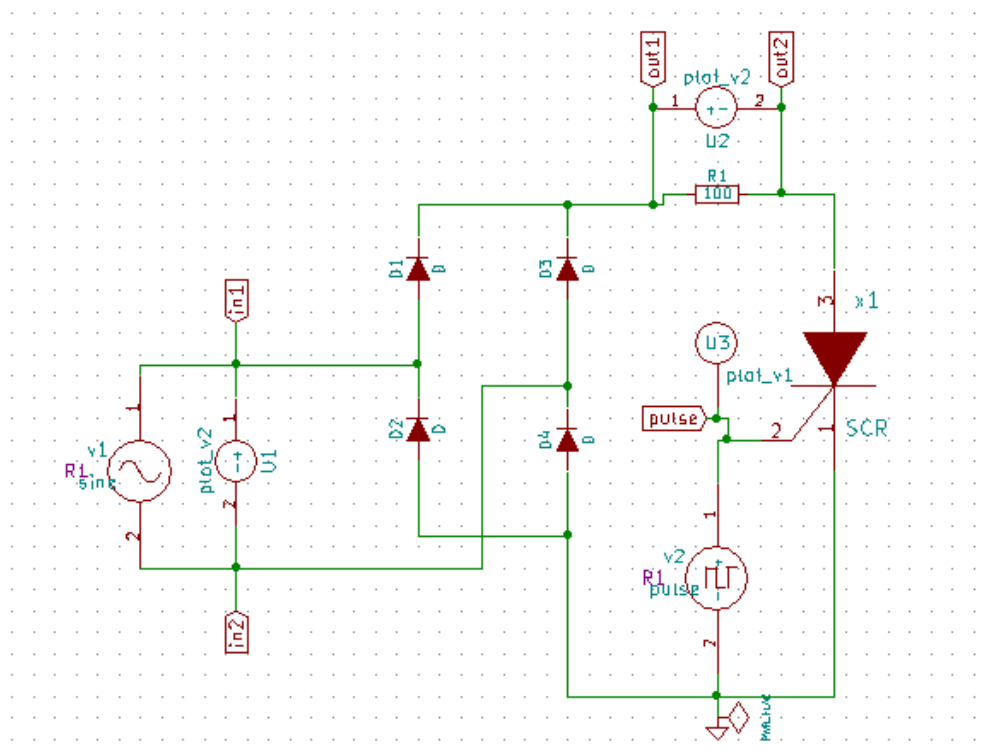

Figure 14.26: Schematic of Full Wave Rectifier using SCR
- **Creating Schematic:** To create the schematic, click the very first icon of the left toolbar as shown in the Fig. 14.2. This will open KiCad Eeschema. After the KiCad window is opened, to create a schematic we need to place the required components. Fig. 14.3 shows the icon on the right toolbar which opens the component library. After all the required components of the Full Wave Rectifier using SCR circuit are placed, wiring is done using the **Place Wire** option as shown in the Fig. 14.4. Next step is **ERC (Electric Rules Check)**. Fig. 14.5 shows the icon for **ERC**. The Fig. 14.26 shows the complete Rectifier circuit using SCR after removing the errors.